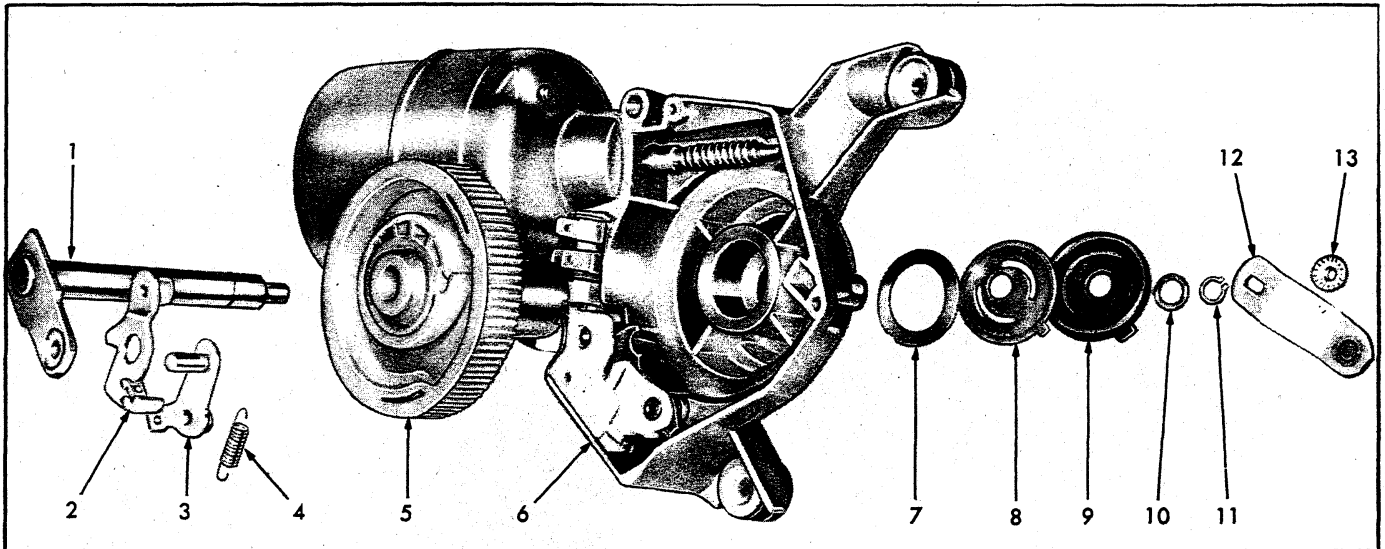

Fig. 84 - Drive Gear Mechanism Assembly
B-Drive Gear Disassembly (Fig. 84)
7. Reassemble the outer spacer washer, shield, shim washers as required to obtain .005" max. end play, snap ring and rubber seal cap in the order indicated. Refer to Figure 84.